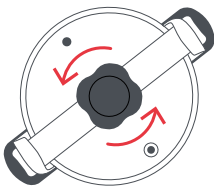
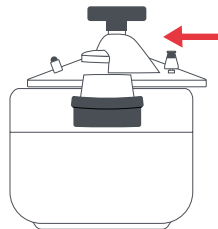

Fig. 7
Fig. 8
2 With the knob (33) in its lower position (by turning it anticlockwise) (Fig. 7), fit the lid (1) to the body (11) (Fig. 8) by engaging the ends of the clamp bar (35) with each clamp hook and make sure it is properly seated by running your fingers around it.
When the pressure has been released, open the cooker by turning the knob (33) anticlockwise until the clamp bar (35) is at the lowest possible position (Fig. 7). Slide the lid (1) horizontally until removed completely. Open the pressure cooker carefully. Keep your face and body at some distance as hot cooking steam may still remain inside the pot.